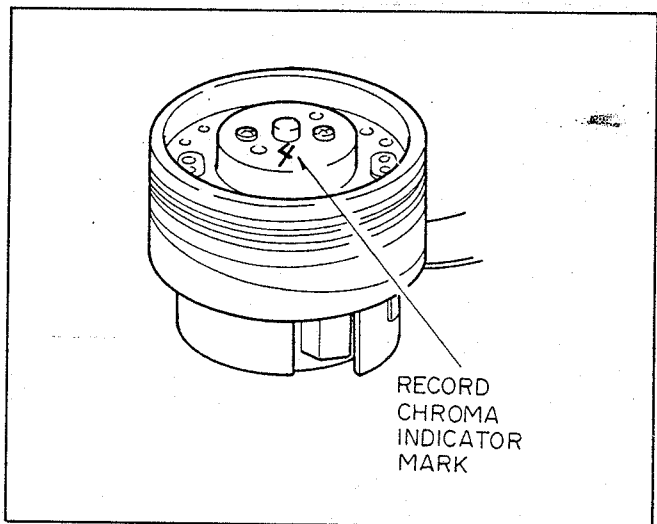

Fig. 4-109 Upper Cylinder Mark Location
7. Check the upper cylinder for number stamped on the top. (See Fig. 4-109)